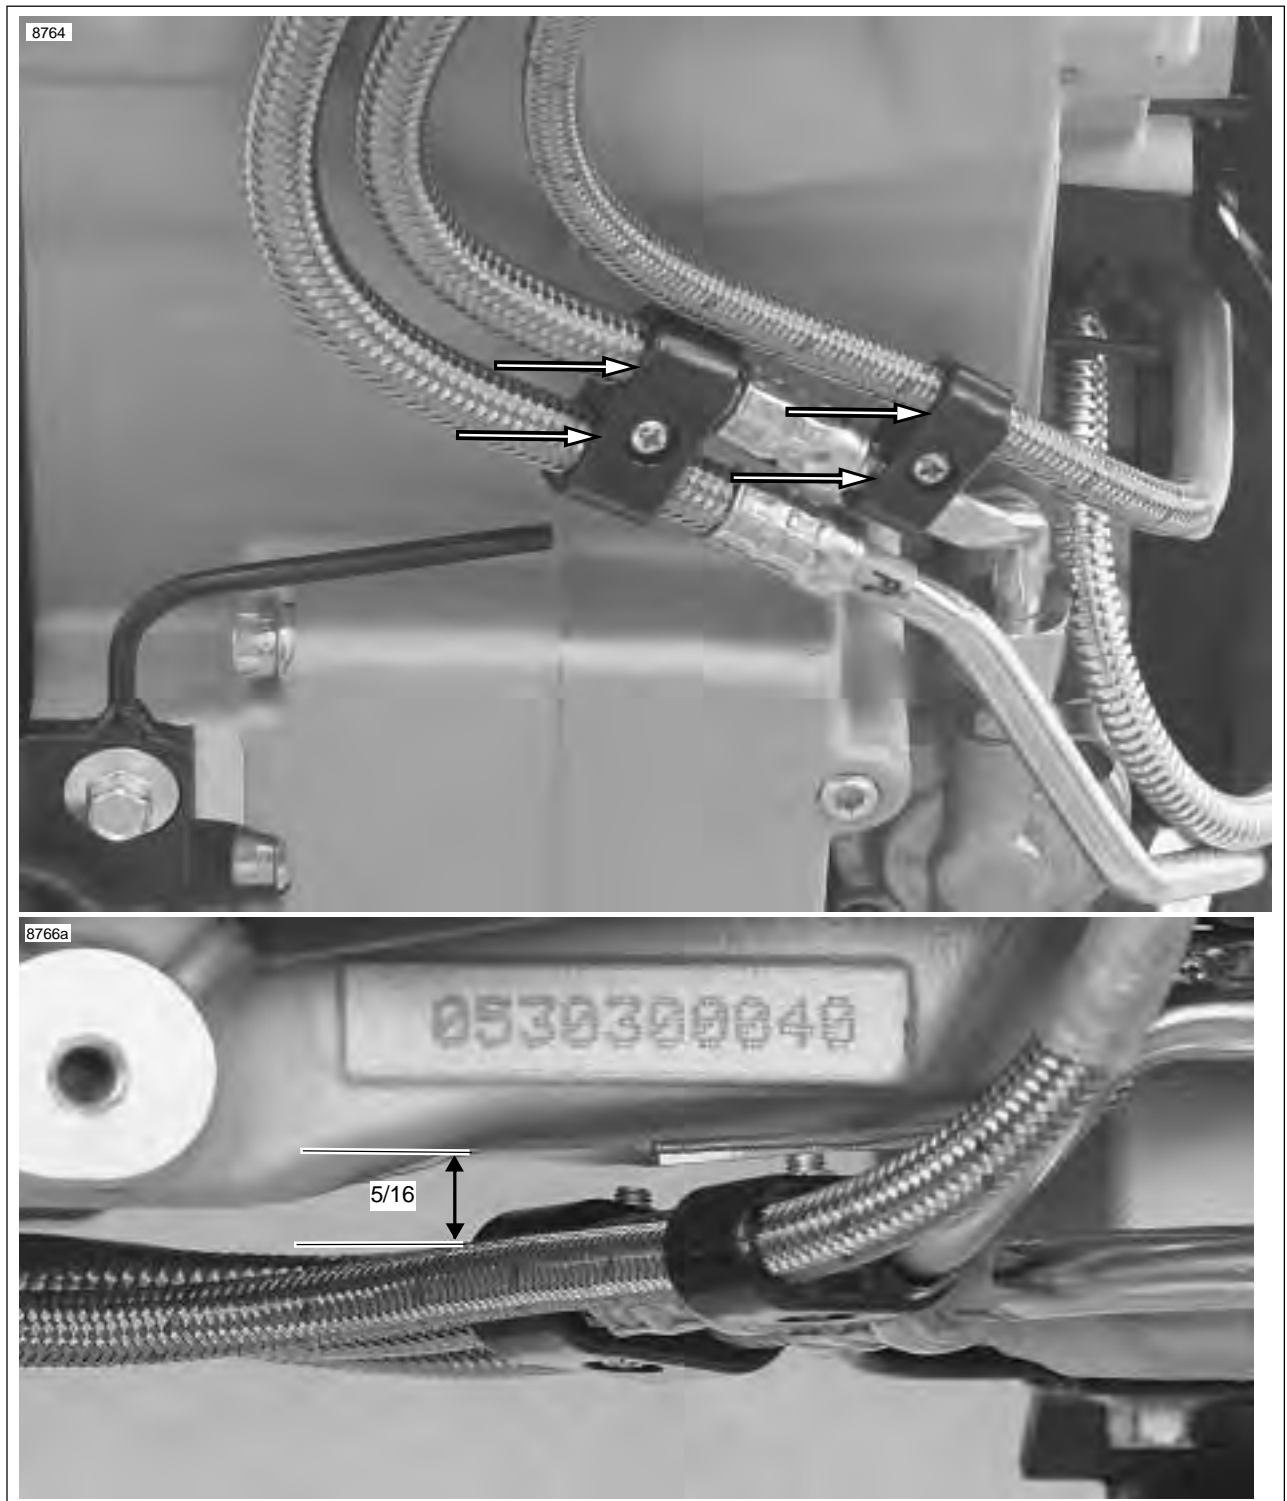

Figure 3-51. Clamp Orientation and Oil Line Spacing
27. See Figure 3-51. Verify that both black plastic oil line clamps are parallel to the crankcases and there is a clearance of 5/16 in. (7.9375 mm) between the bottom of the crankcases and the oil lines.